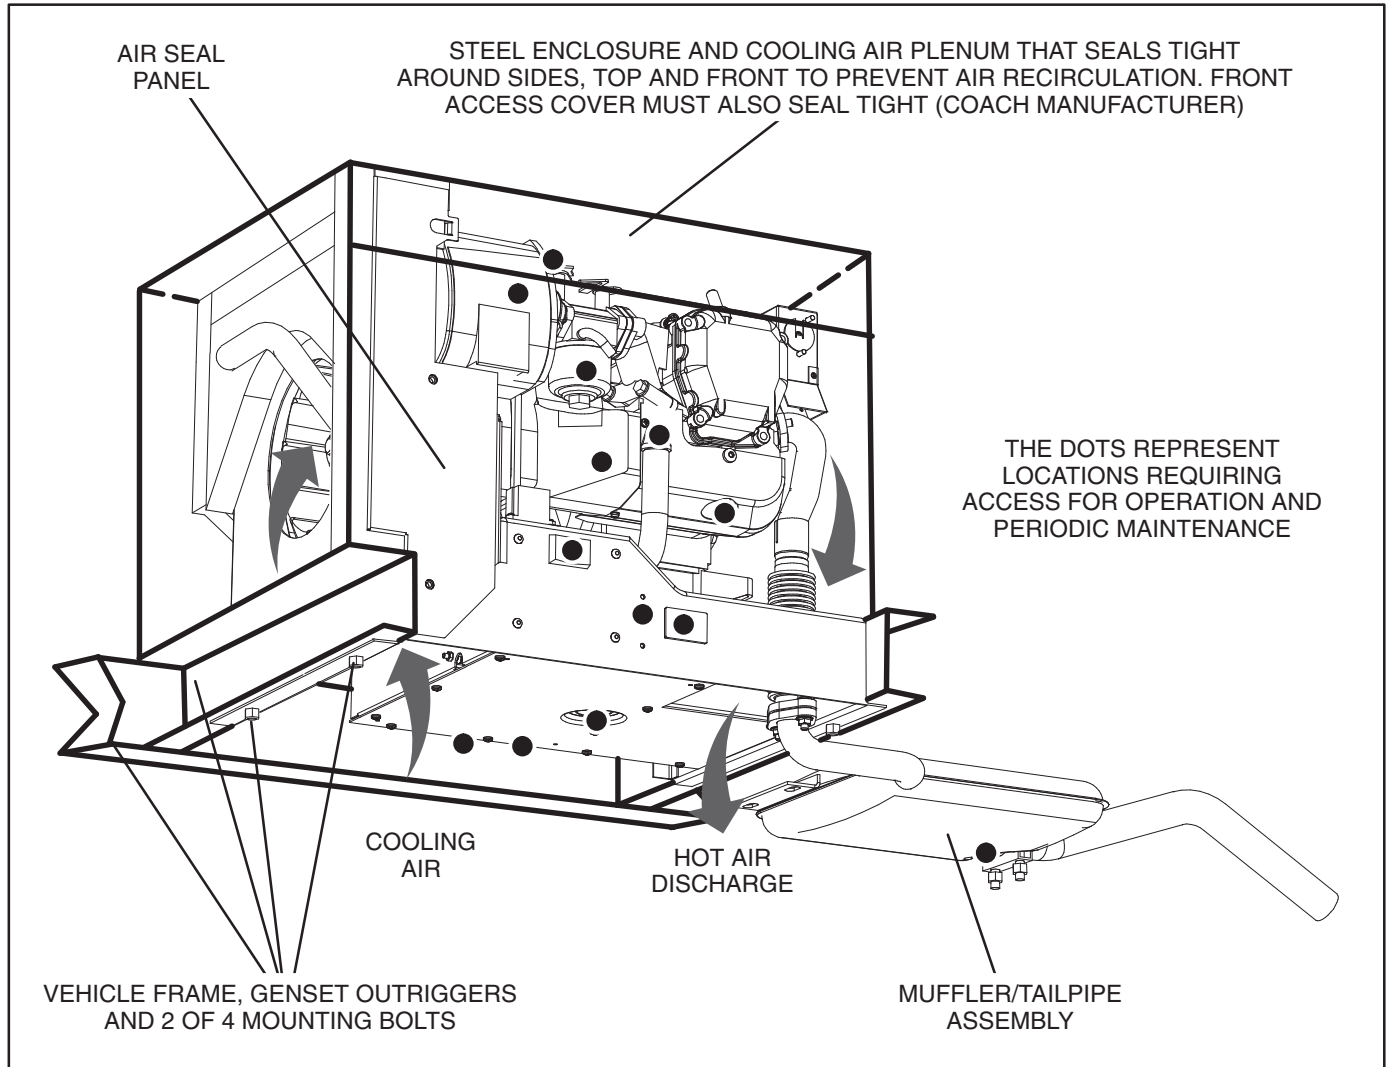
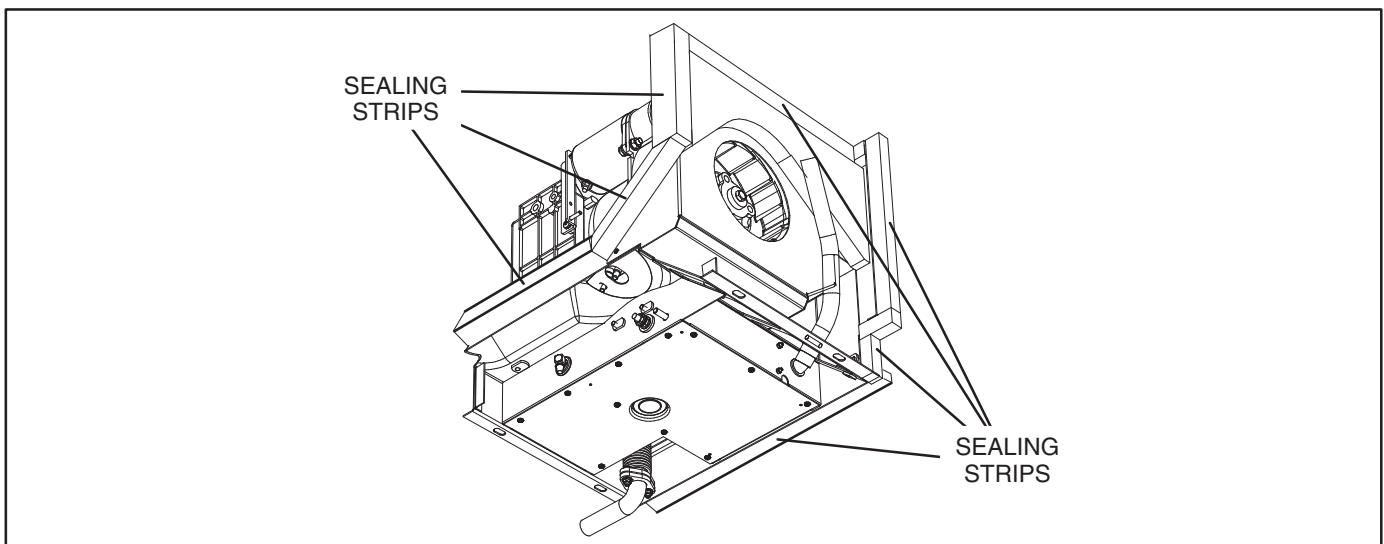

FIGURE 1. TYPICAL GENSET INSTALLATION
FIGURE 2. AIR SEALING STRIPS
Figure 1 illustrates a typical genset installation. For clarity, the genset compartment door and front panels (provided by the vehicle manufacturer) are not shown. See OUTLINE DRAWING (Page A-1) for installation details: mounting bolt hole locations,
These gensets are designed for installation inside a steel compartment that forms the cooling air plenum of the genset (Figure 1). The cooling air inlet and hot air discharge openings are both in the bottom of the genset. The genset has mounting flanges and is meant to be lifted up to the bottom of the vehicle frame outriggers and bolted.
3. The genset compartment must be sized according to the outline drawing (Page A-1). Construction must be such that the compartment forms a good seal against the foam seal strips shown in Figure 2, to prevent warm air off the engine from recirculating back into the blower inlet. The air seal panel (Figure 1) pre-